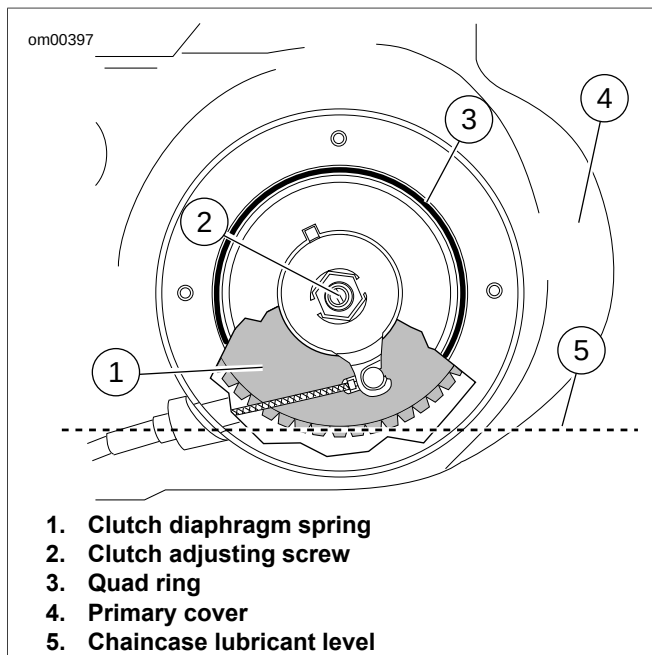

Figure 1-22. Chaincase Lubricant Level
6. See Figure 1-22. Verify that lubricant level is even with bottom of clutch diaphragm spring (1).
10. See Figure 1-22. Add 1.00 qt (0.95 L) of FORMULA+ TRANSMISSION AND PRIMARY CHAINCASE LUBRICANT through clutch inspection cover opening. Verify that lubricant level is even with bottom of clutch diaphragm spring (1).